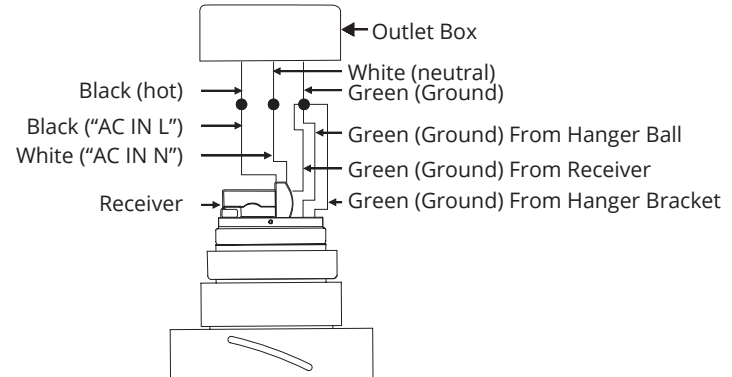

FIG.15
4. Connect the black (hot) wire from the ceiling to the black wire marked "AC in L" from the receiver **(FIG. 15)**.
5. Connect the white (neutral) from the ceiling to the white wire marked "AC in N" from the receiver **(FIG. 15)**.